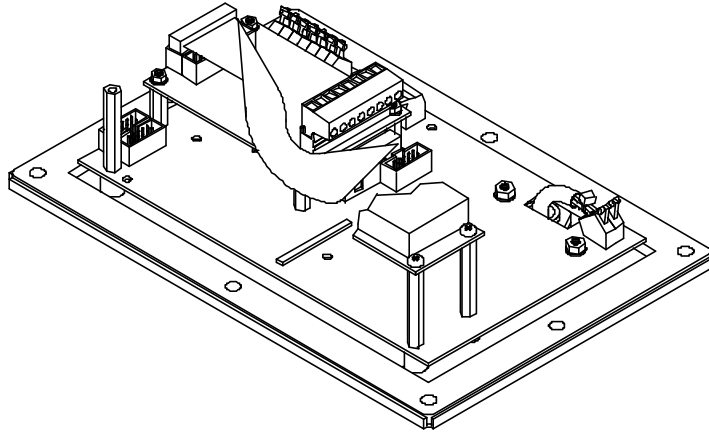

Figure 13-5: 460 Series SBM Installation
1. Install the 4 M3 Male-Female aluminum standoffs on the 4 short studs protruding through the main board using a 6mm socket or wrench. See Figure 13-5.